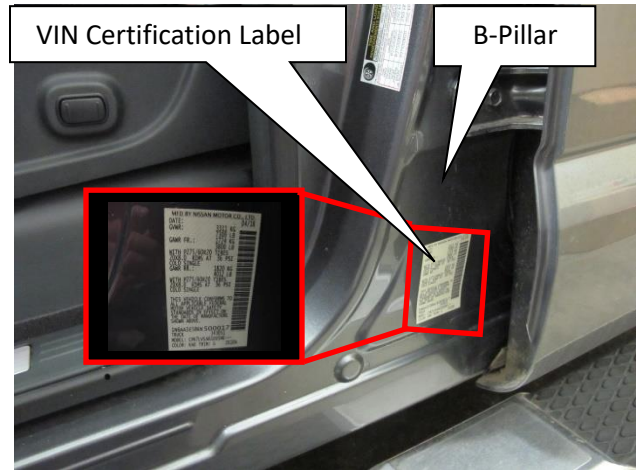

Figure 1
1. Verify the VIN of the affected Titan / Titan XD using the VIN Certification label. (Figure 1).